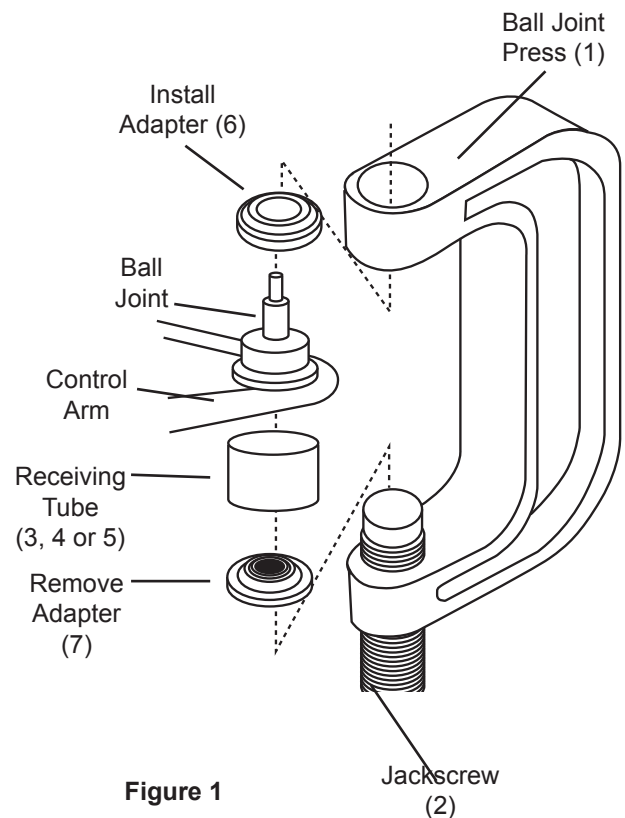

Figure 1
1. Assemble the Ball Joint Press (1) over the vehicle's control arm. Select the correct size Receiving Tube (3, 4, or 5), and position it under the vehicle's ball joint.
2. Place the Remove Adapter (7) between the Receiving Tube and the Jackscrew (2). Then, place the Install Adapter (6) between the top of the ball joint and the Ball Joint Press. See Figure 1, below.